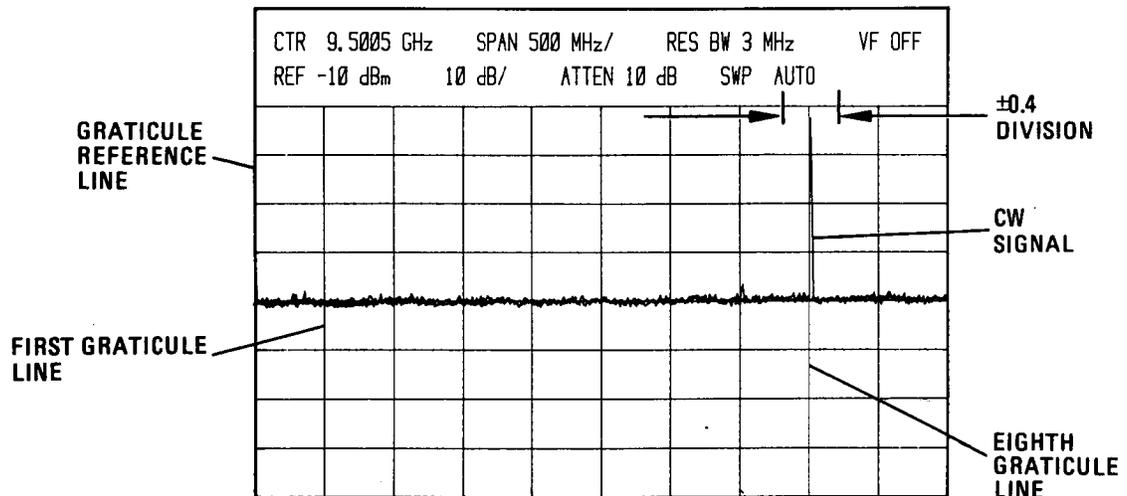

Figure 4-3. Span Width Accuracy Measurement, 500MHz and 200 MHz per Division
6. Measure error between signal peak and eighth graticule line. Error should not exceed  $\pm 0.4$  division. (See Figure 4-3.)
10. Measure error between signal peak and eighth graticule line. Error should not exceed  $\pm 0.4$  division. (See Figure 4-3.)